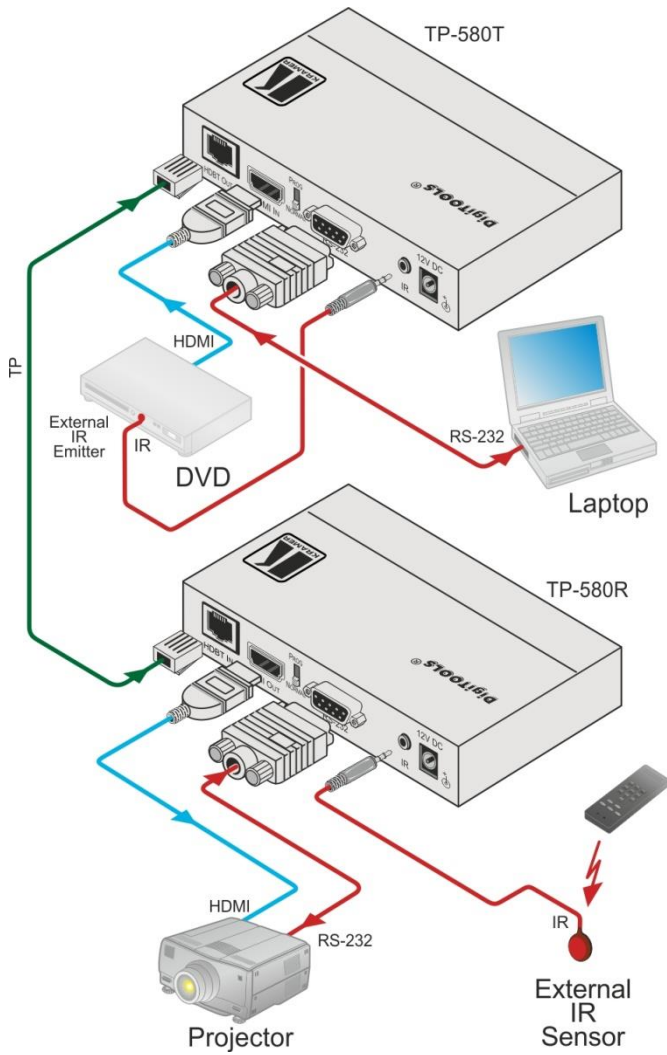

Figure 5: Connecting the TP-580T/TP-580R Transmitter/Receiver Pair
You can use the **TP-580T HDMI Line Transmitter** and the **TP-580R HDMI Line Receiver** to configure an HDMI transmitter/receiver system, as shown in the example in Figure 5.
5. 12V DC power adapter to the power socket and connect the adapter to the mains electricity (not shown in Figure 5).
10. 12V DC power adapter to the power socket and connect the adapter to the mains electricity (not shown in Figure 5).